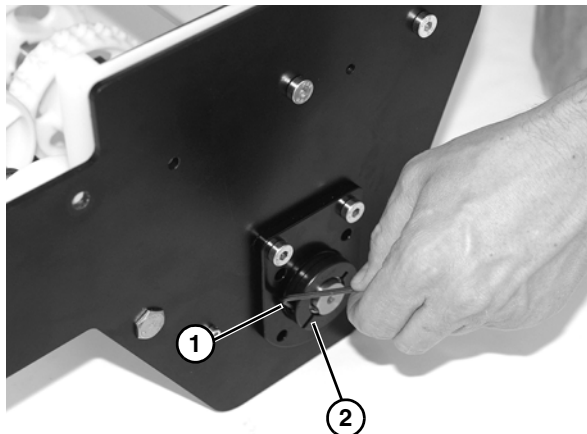

Figure 47
6. Loosen the bearing collar set screw (**Figure 47, item 1**) and remove bearing collar (**Figure 47, item 2**).